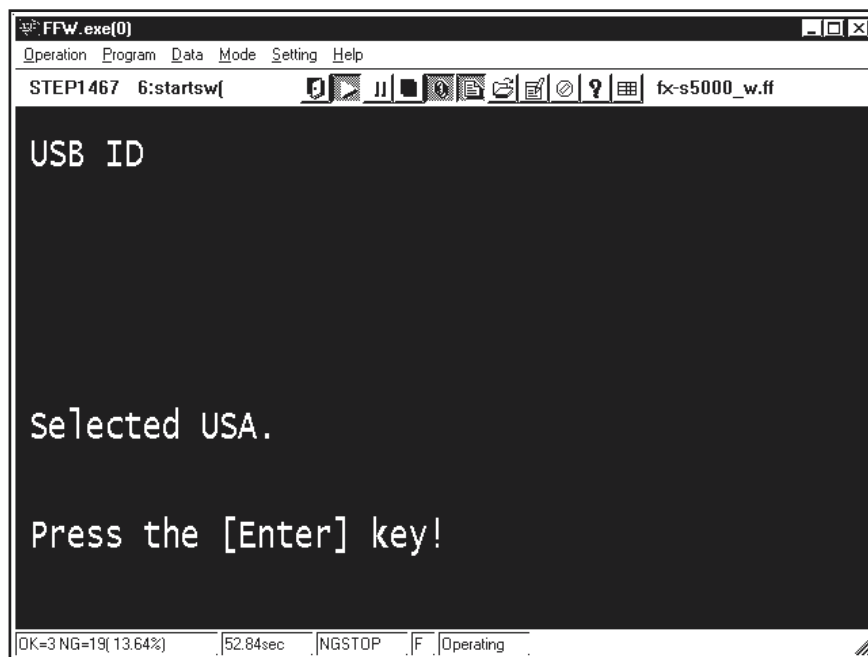

Fig.41
----> The [USB ID USA site selected Screen (Fig.41)] is appears.